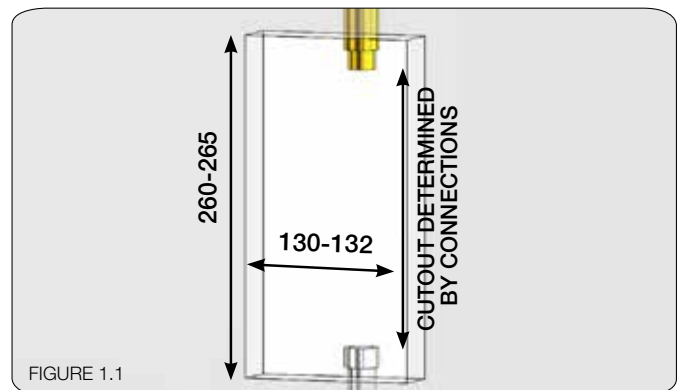

FIGURE 1.1
5. Cut an adequate opening in the wall for the bracket and appropriate gap in pipe work to fit the valve. (Bracket Dimensions 130 x 260 - cut out MAX 132 x 265) (FIGURE 1.1)